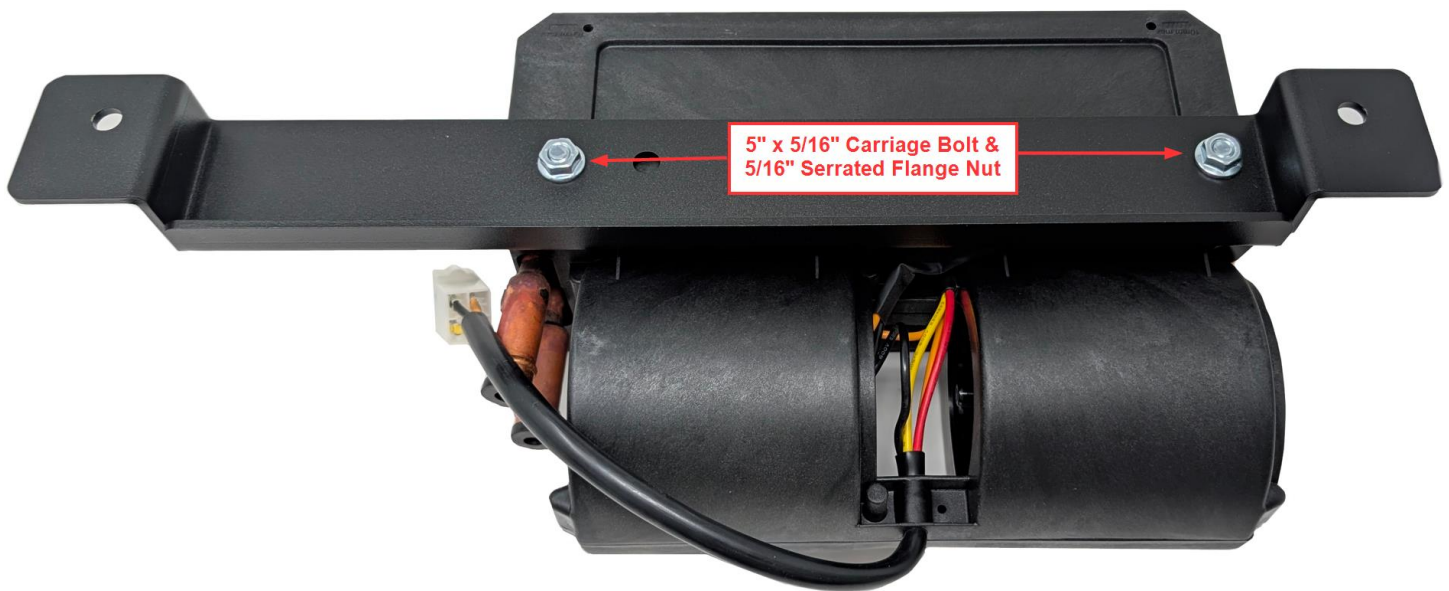

Figure 10
- a. Attach the Heater to the Heater Bracket using the 5" x 5/16" Carriage Bolts and Nuts as shown in Figure 10.